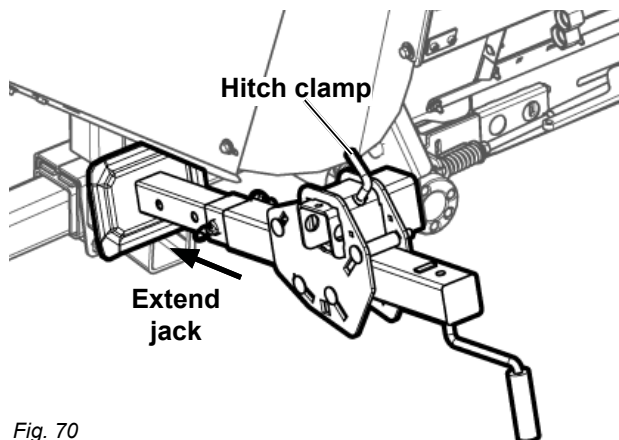
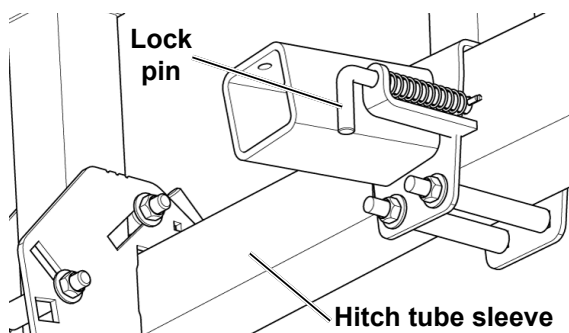

Fig. 70
Fig. 71
4. Pull the Lock Pin on the hitch tube and slide the tube into the storage sleeve. Refer to Fig. 70. Attach the hitch safety chain to the storage stub as shown in Fig. 71.